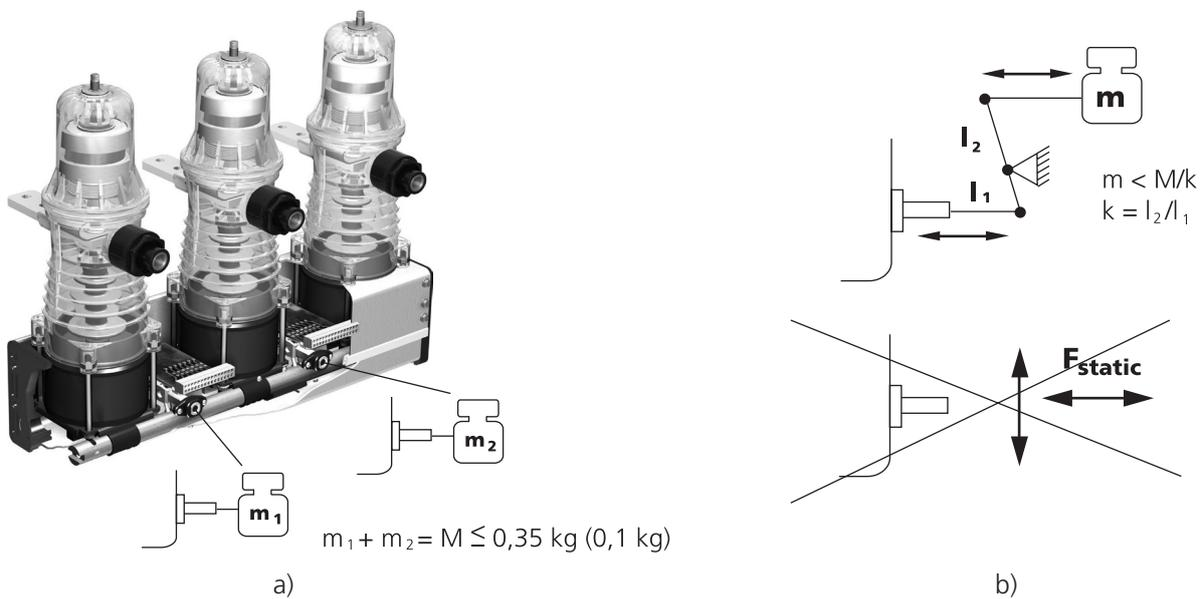

Figure 102
- If the interlocking mechanism is attached to one of the interlocking pins, the weight of the directly attached movable part to the interlocking pins shall not exceed 0.35 kg. If both interlocking pins are used, the sum of the attached weights shall not exceed 0.35 kg (Figure 102).
- For manual-emergency-tripping a force of up to 250 N may be applied to the interlocking pins. But no static force shall be applied (Figure 102).